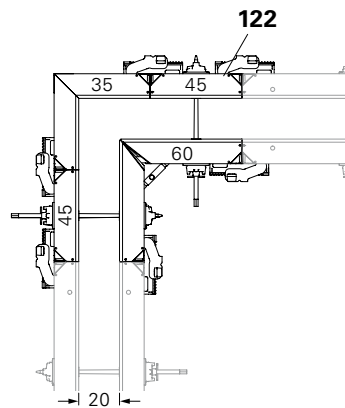

Fig. C2.03
- Wall thickness 20: Fig. C2.03